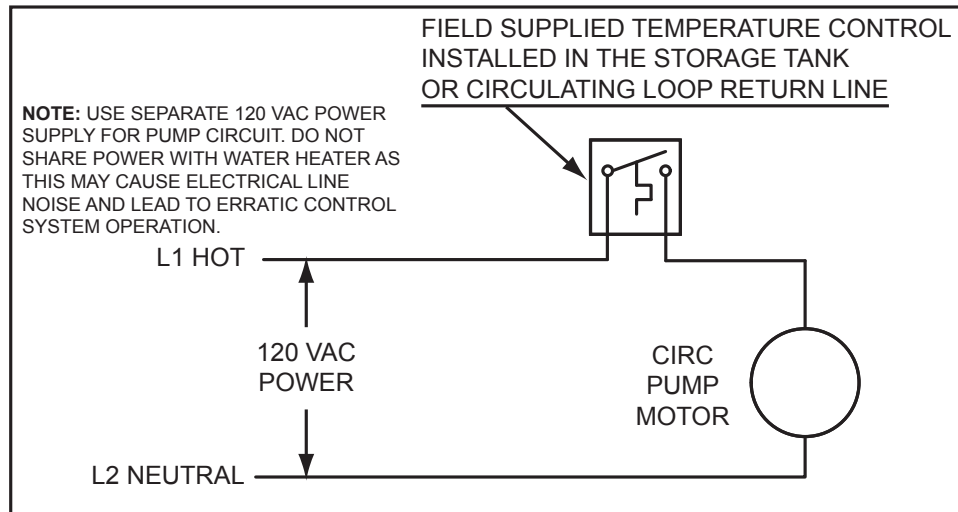

Figure 71. Circulating Pump Wiring Diagram - Storage Tank or Building Recirculation
6. If a pump is being installed between a water heater and storage tank or on a building recirculation loop wire according to *Figure 71* (page 79).